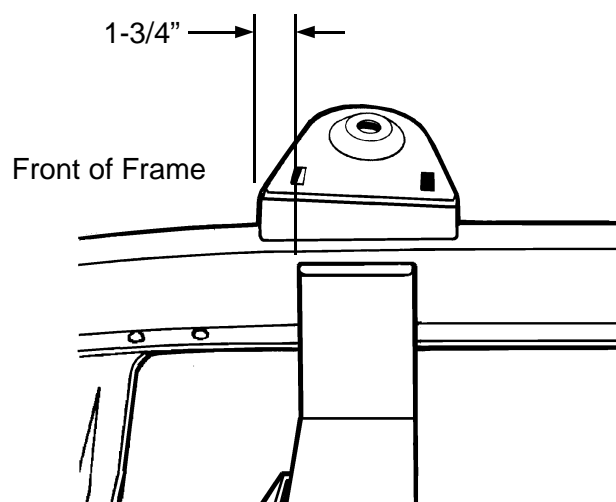

Figure 5
6. Next are the spring towers. They sit on top of the frame rails, and are located with the higher side towards the front as shown in Figure 5, (1-3/4" forward of the crossmember). Clamp in place, double check your dimensions, then weld all around, including the gusset flanges on the sides of the rails. For added strength, you can also weld the inside of the gusset flanges.